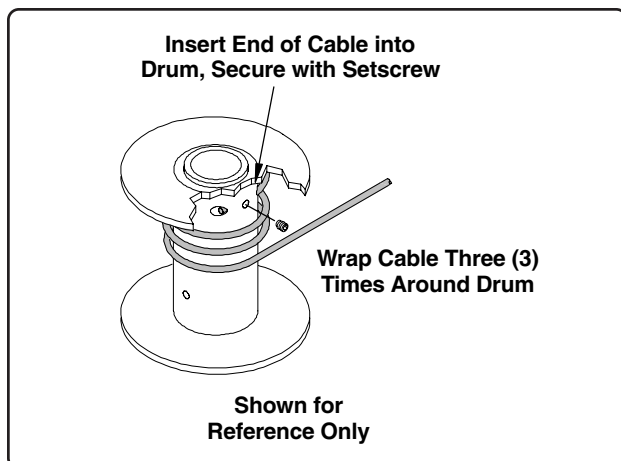

Fig. 40
4. Make three (3) wraps of cable around the winch drum, then insert the cable end into one of the larger holes on the winch drum (it may be necessary to loosen the setscrew to allow the cable to slide into the opening). **Make sure the cable is wrapped around the drum in the same direction as it was attached (See Fig. 40).**